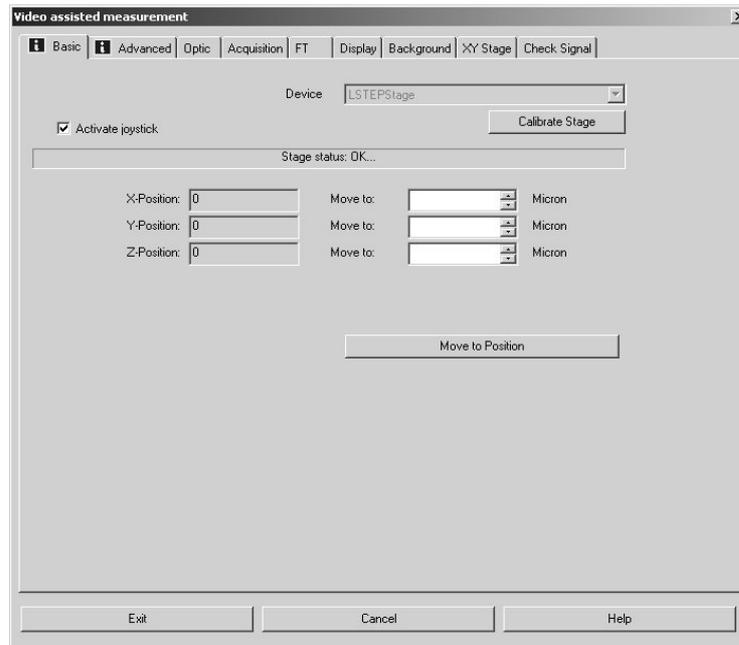

Figure 29: Video Assisted Measurement Dialog Box – XY Stage Page
After having selected the correct COM port and switched the LANG controller to the automatic mode (A), communication should be established. Check the correct cable connection by calibrating the stage. Switch to the *XY Stage* dialog window of the *Video assisted measurement* dialog box (figure 29) and click on the *Calibrate Stage* button. Now the stage should move backwards and to the right side of the microscope. If this is not the case, either the connections of the X and Y cable have to be changed, or the stage is not mounted correctly.